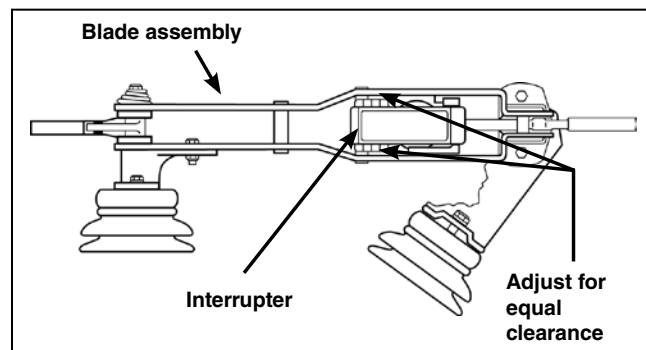

Figure 35. Interrupters lie in a plane parallel to the blade assemblies.
- (a) The interrupter must lie in a plane parallel to the sweep of the blades, and the blades must pass over the interrupter with approximately equal clearance on both sides. See Figure 35.